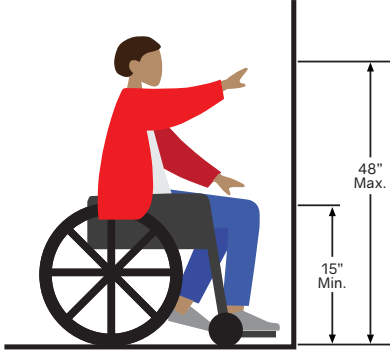

Figure 1.1
NOTE: See Figure 1.1 & the link below for more details
- 1 Install this pedestal with charging station so that all user controls are between 15" and 48" above ground level (as per ADA regulations). **See Figure 1-1.**